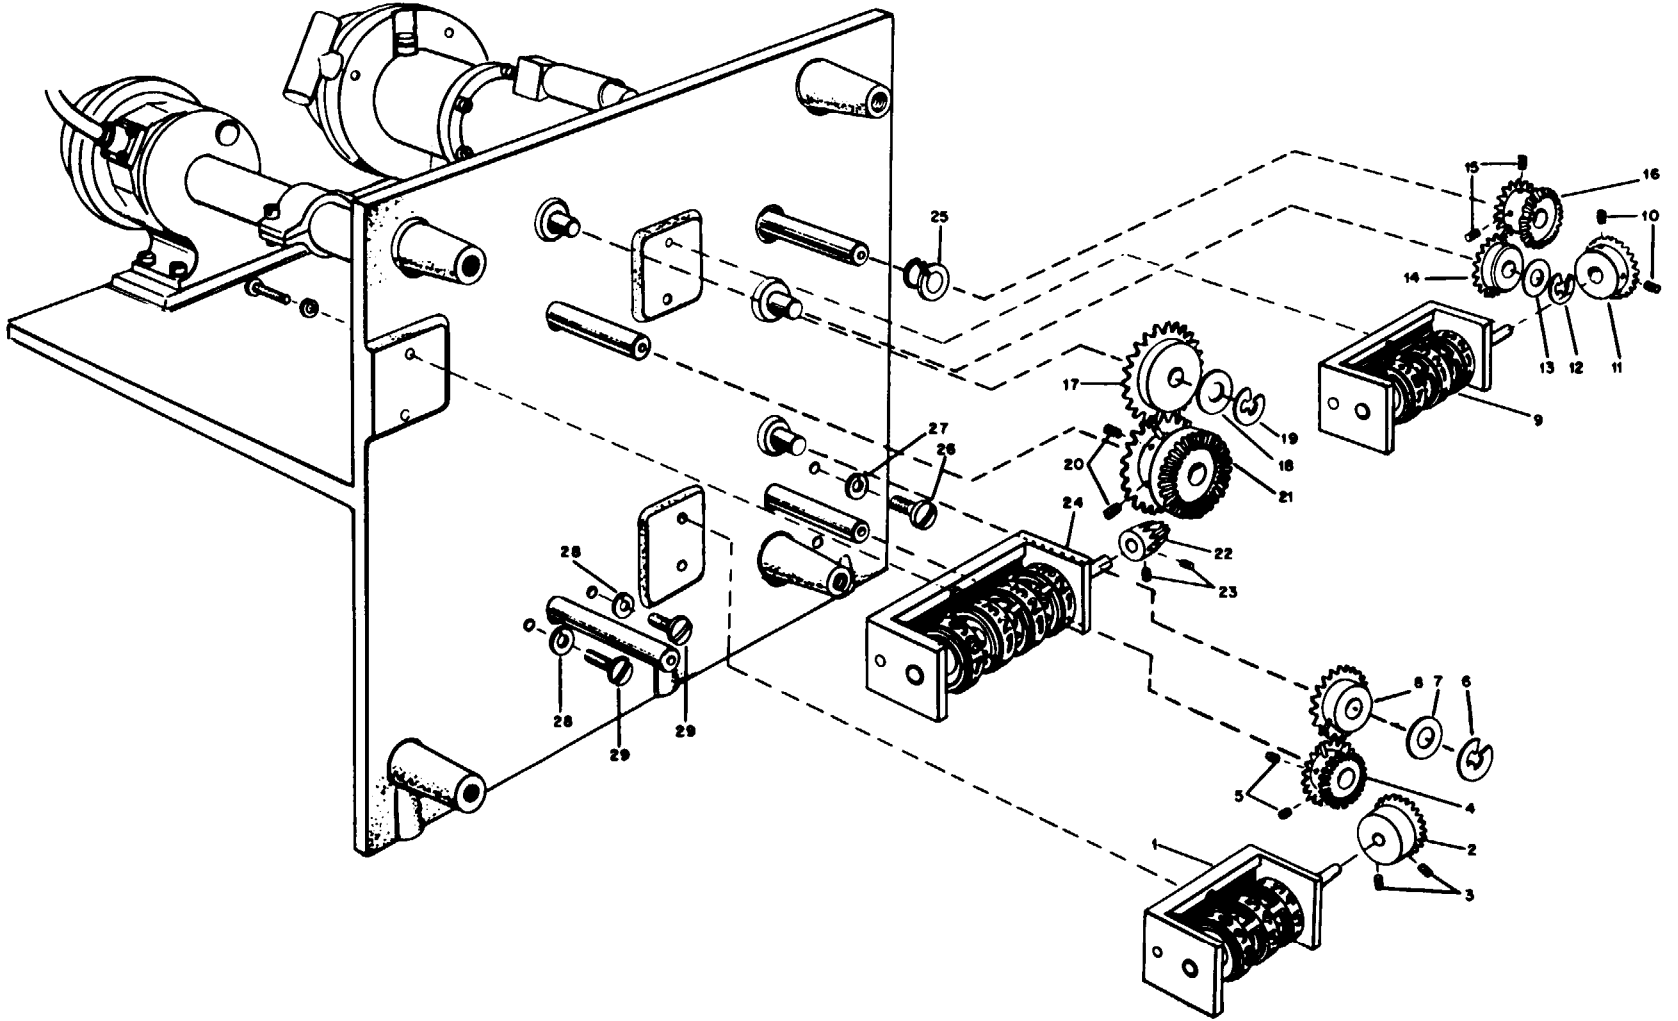

Figure 5-9. Base Plate Assembly, Exploded View
- Step 1. Turn tuning shaft of ALC/Attenuator Assembly 8A2 counterclockwise to end of rotation, then turn clockwise 1/4 turn. Assemble compound gear (figure 5-9, item 21) to attenuator shaft. Insert setscrews (item 20) into gear but do not tighten. Install spur gear (item 17), flat washer (item 18), and retaining "E" ring (item 19) on the short shaft just above the attenuator shaft. Reinstall the rotating counter (item 24) on the base plate. Place bevel gear (item 22) on counter shaft; place setscrews (item 23) in gear but do not tighten. Without the gear teeth meshing, place the stops as illustrated in figure 5-9. Manipulate the gears until they mesh. Be sure that the positions of the stops are not disturbed. Slide the bevel gear to the right to see if it meshes with the compound gear (item 21). Do not tighten setscrews (item 23) on the bevel gear. Tighten the setscrews (item 20) on the compound gear (item 21).
- Step 2. Install nylon bearing sleeve (item 25) on base plate. Rotate rf oscillator tuning shaft fully counterclockwise. Place compound gear (item 16) on rf oscillator shaft. Insert but do not tighten setscrews (item 15). Install bevel gear (item 11) on rotating counter shaft after installing rotating counter onto base plate. Install setscrews (item 10) on gear but do not tighten. Place spur gear (item 14), flat washer (item 13), and retaining "E" ring (item 12) on short shaft just below rf oscillator tuning shaft. Align the compound gear (item 16) and the spur gear (item 14) as shown in figure 5-9. Check to see that the teeth on the gears mesh and that the stops are correctly positioned. Slide the bevel gear to the right to see that the teeth mate with the teeth on the compound gear. Do not tighten setscrews (item
- 10) on bevel gear (item 11) but tighten setscrews (item 15) on compound gear (item 16).
- Step 3. Install rotating counter (item 1) on baseplate. Turn wavemeter shaft fully counterclockwise. Place bevel gear (item 2) on rotating counter shaft. Insert setscrews (item 3) into bevel gear but do not tighten. Install setscrews (item 5) into the compound gear (item 4). Place compound gear (item 4) on short shaft just above wavemeter tuning shaft. Install spur gear (item 8), flat washer (item 7), and "E" ring (item 6) on wavemeter tuning shaft. Align the gears (items 4 and 8) so that gear stops are positioned as shown in figure 5-9. Manipulate the gears so that the teeth are engaged. Be careful that the position of the gear stops is not disturbed.